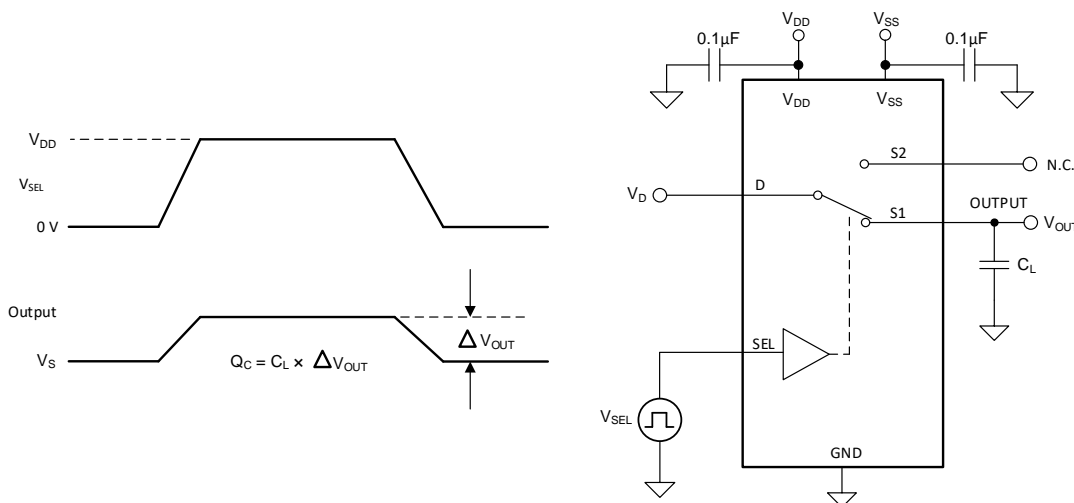

Figure 12. Charge-Injection Measurement Setup
The TMUX1247 has a transmission-gate topology. Any mismatch in capacitance between the NMOS and PMOS transistors results in a charge injected into the drain or source during the falling or rising edge of the gate signal. The amount of charge injected into the source or drain of the device is known as charge injection, and is denoted by the symbol Q_C . Figure 12 shows the setup used to measure charge injection from Drain (D) to Source (Sx).